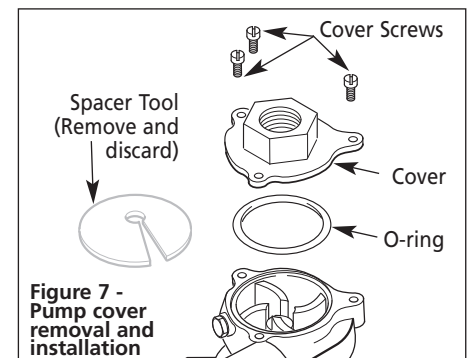

Figure 7 - Pump cover removal and installation
8. Apply a thin coat of oil to the new o-ring (Ref. No. 8); then install the new o-ring onto the cover (See Figure 7).
9. Align the cover with the housing and secure it to the cover using the three cover screws (Ref. No. 1) (See Figure 7).
1. Remove cover screws (Ref. No. 1), cover (Ref. No. 2), and o-ring (Ref. No. 8); then discard the old o-ring (See Figure 7).